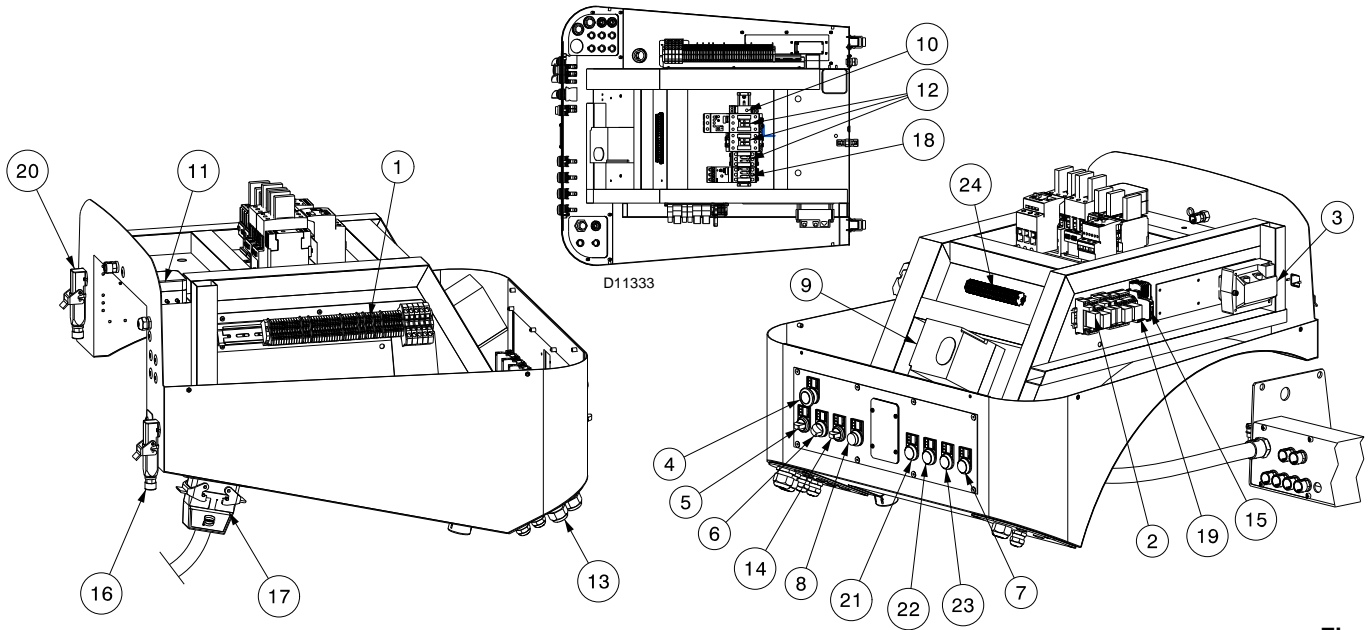

Fig. 6
- **Control box lockout:** if the control box button (**red led**) 9)(Fig. 6) and the backlit button 8) light up, it indicates that the burner is in lockout. Release by pressing the pushbutton 8).